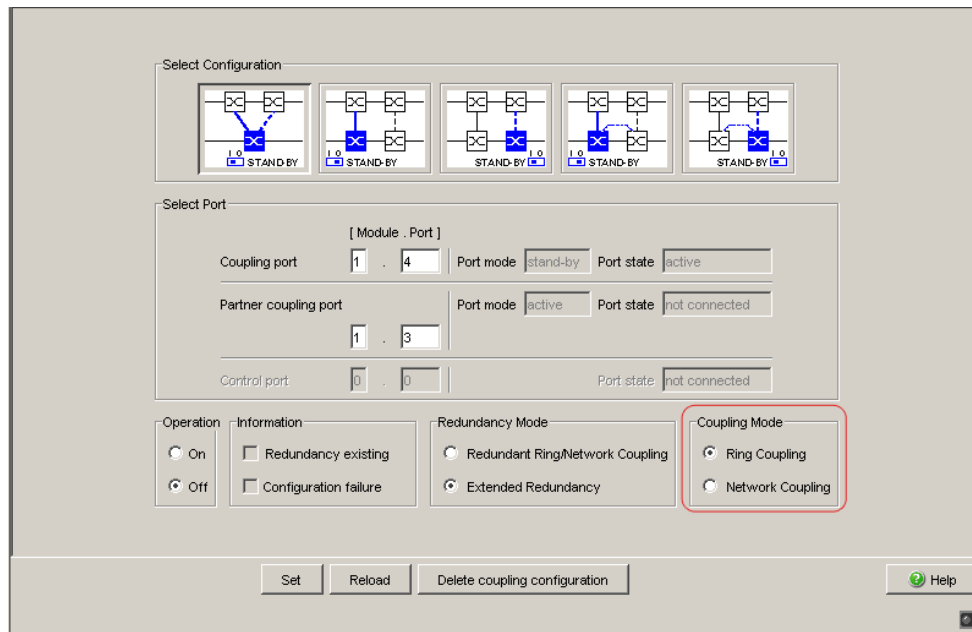

Figure 25: Selecting the coupling mode
- In the “Coupling Mode” frame, select (see fig. 25)